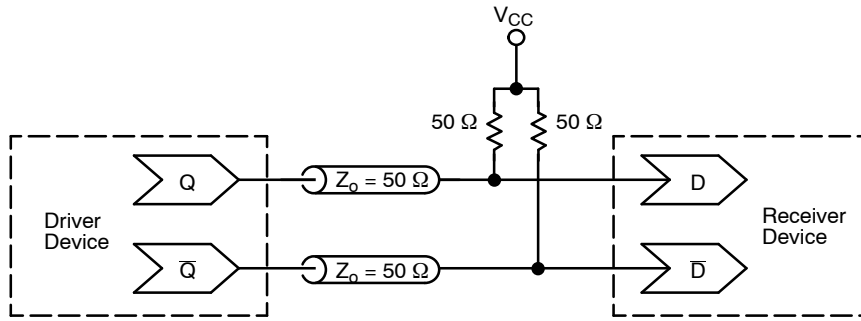

Figure 8. Typical Termination for Output Driver and Device Evaluation
- CML outputs require $R_L = 50\ \Omega$ receiver termination resistors to V_{CC} for proper operation. (See Figure 8)
RSECL, PECL, NECL	Standard ECL Termination Techniques (See Figure 8)